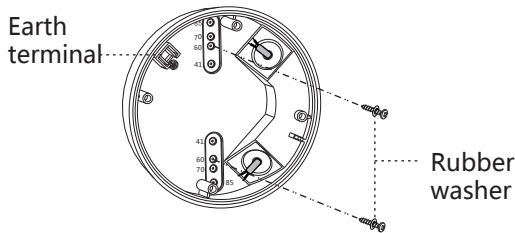

FIG.17
- Choose proper knockouts to fix the junction box JB-41 on the surface of ceiling board with 2pcs wood screws attached with rubber washer (See FIG.17).